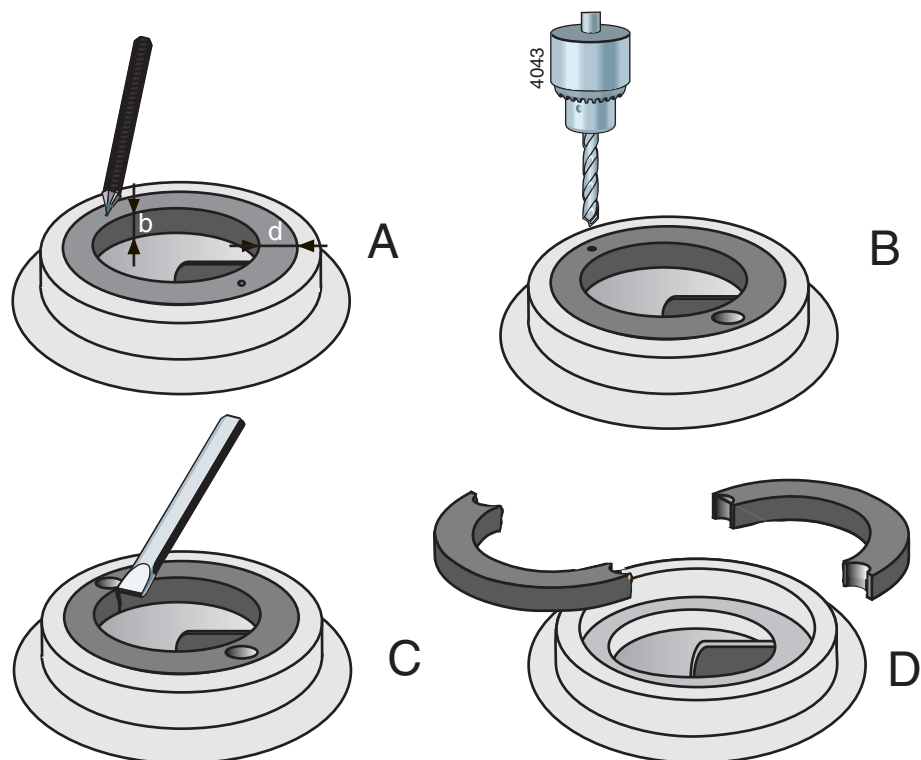

Figure 9: Removal of wear ring.
- 1 Measure the thickness (d) and the width (b) of the ring, see figure 9 A.
- 2 Make a centre hole in the middle of the edge of the ring at two opposite points, see figure 9 B.
- 3 Use a drill with a diameter just a little bit smaller than the thickness (d) of the ring and drill two holes in the ring, see figure 9 C. Don't drill deeper than the width (b) of the ring. Take care not to damage the fitting edge of the pump casing.
- 4 Use a chisel to cut the remaining part of the ring thickness. Now you can remove the ring in two parts from the pump casing, see figure 9 D.